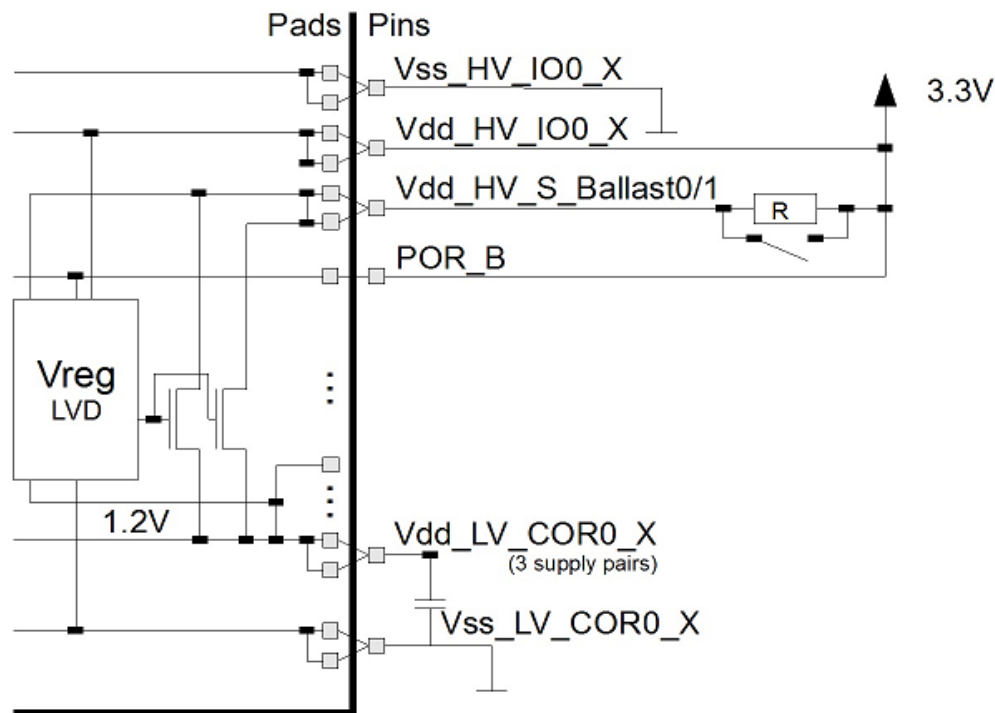

Figure 6. Internal Regulation Mode
- $V_{DD\_LV\_COR}$  (1.2V) — This is the core logic supply. In the internal regulation mode, the core supply is derived from the main supply via an on-chip linear regulator driving an internal PMOS ballast transistor. The PMOS ballast transistors are located in the pad ring and their source connectors are directly bonded to a dedicated pin. See Figure 6.